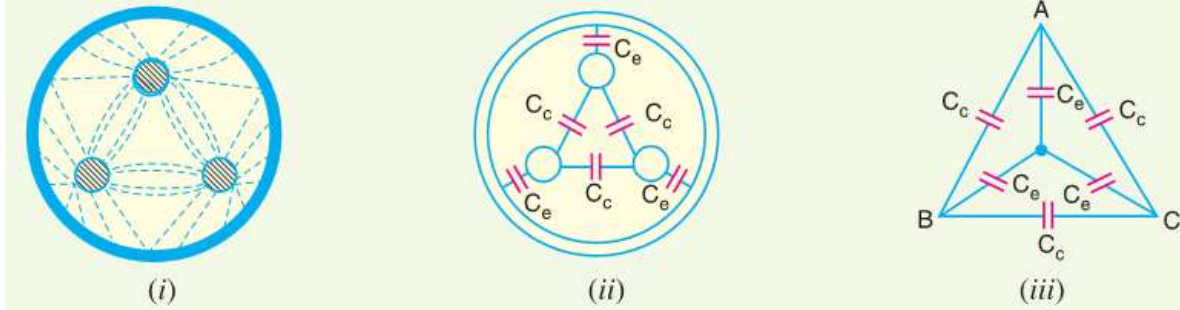
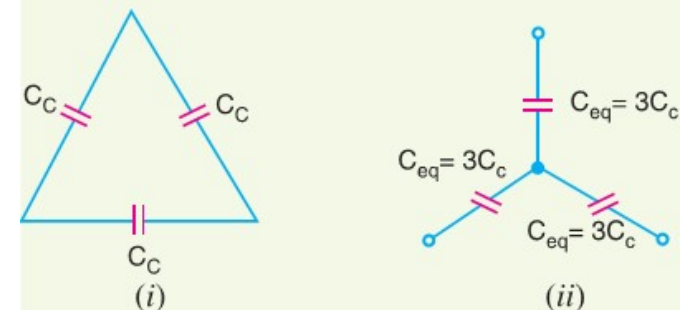

Figure 16
Figure 17
- Figure 16 shows a system of capacitances in a 3-core belted cable used for 3-phase system. Since potential difference exists between pairs of conductors and between each conductor and the sheath, electrostatic fields are set up in the cable as shown in Fig. 16 (i).
- These electrostatic fields give rise to core-core capacitances C_c and conductor-earth capacitances C_e as shown in Figure 16(ii).
- The three C_c are delta connected whereas the three C_e are star connected, the sheath forming the star point as shown in Figure 16 (iii).
- They lay of a belted cable makes it reasonable to assume equality of each C_c and each C_e . The three delta connected capacitances C_c as shown in Figure 17 (i) can be converted into equivalent star connected capacitances as shown in Fig. 17(ii). It can be easily shown that equivalent star capacitance C_{eq} is equal to three times the delta capacitance C_c i.e. $C_{eq} = 3C_c$.
- Figure 16 (iii) reduces to the equivalent circuit shown in Figure 17 (i). Therefore, the whole cable is equivalent to three star-connected capacitors each of capacitance $C_N = C_e + C_{eq} = C_e + 3C_c$